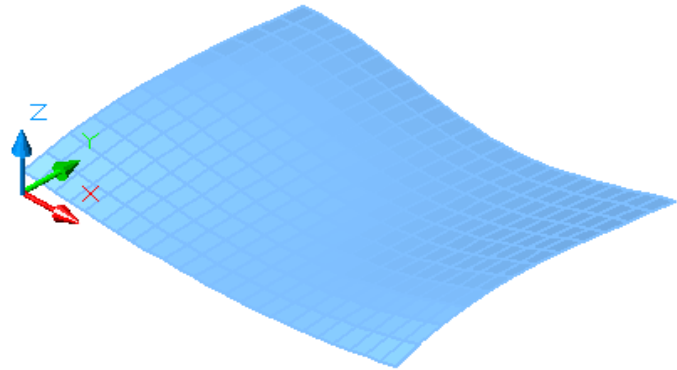

Figure Step 9
Step 9 Set the current visual style to Realistic. (Figure Step 9)